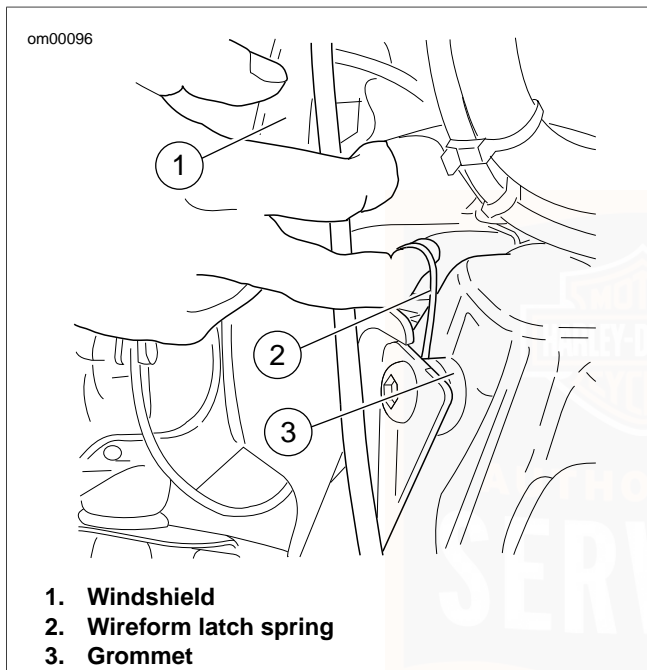

Figure 36. Windshield Assembly
1. See Figure 36. Insert your fingers into the wireform latch springs at either side of the windshield and move the TOP
1. See Figure 36. Insert your fingers into the wireform latch springs at either side of the windshield and slide the BOTTOM windshield bracket notches onto the bottom grommets.